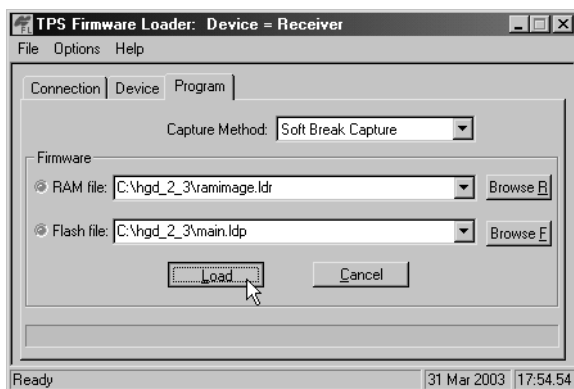

Figure 4-19. Program Tab Settings
3. Select the **Program** tab and set the Capture Method to Soft Break Capture (recommended) (Figure 4-19).
4. Browse for and select the receiver board's RAM file and Flash file (Figure 4-19).